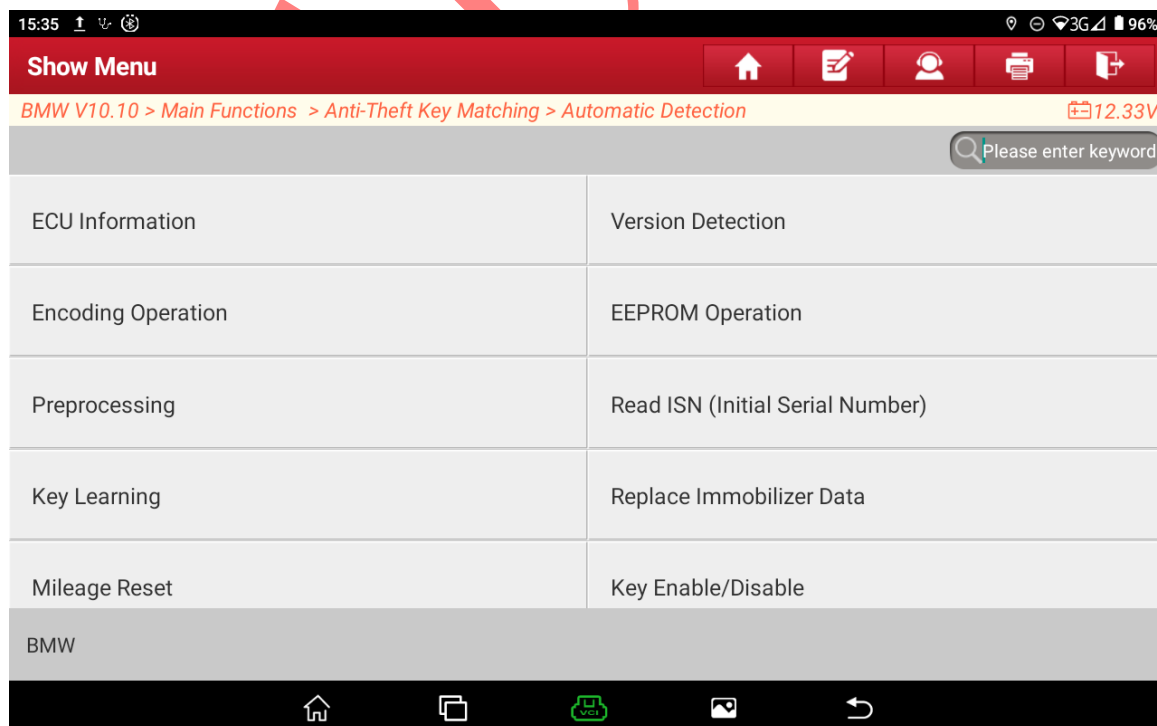

Figure 4
4. Select 【ECU Information】 to view and record the current information of the ECU, as shown in Figure 4.